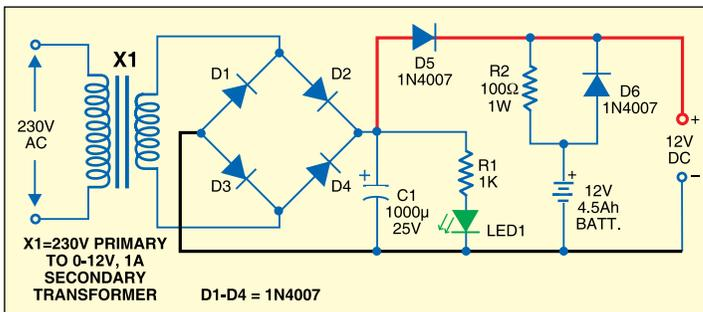

Fig. 2: Power supply with battery backup
**Power supply circuit.** Power supply section (Fig. 2) comprises a 0-12V, 1A step-down transformer with a standard full-wave rectifier formed by D1 through D4 and filter capacitor C1. A battery backup is provided if the mains supply is cut-off due to short-circuit and fire. A 12V, 4.5Ah rechargeable battery is used for backup to give sufficient current to the solenoid pump. When mains